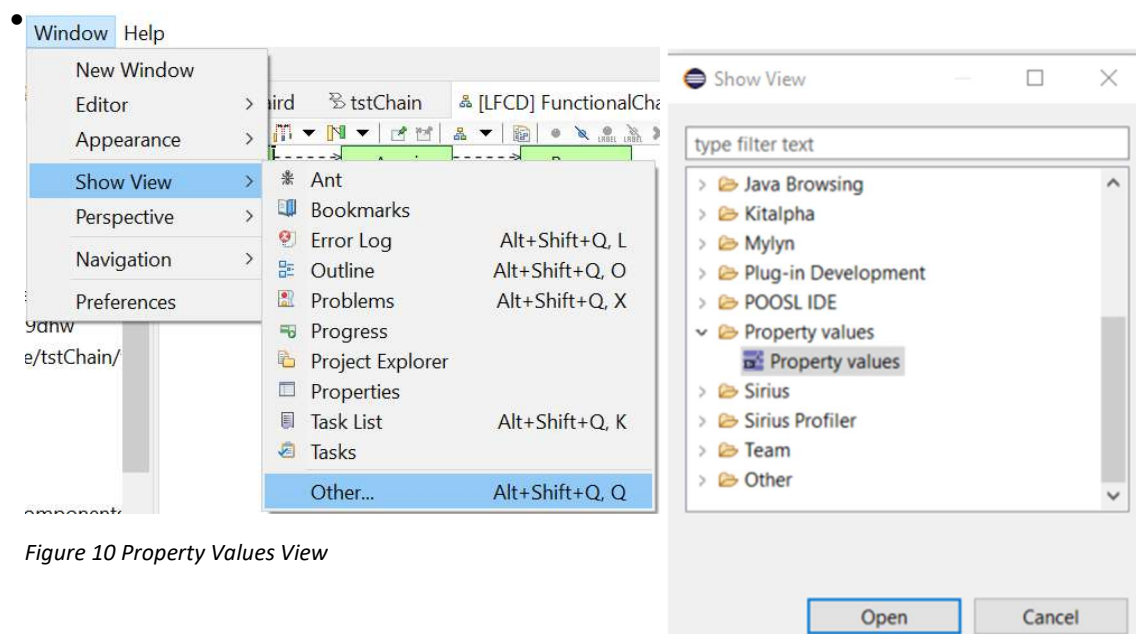

Figure 10 Property Values View
- Tab Window > Show View > Other > Choose Property values, select Property values – Open; see Figure 10